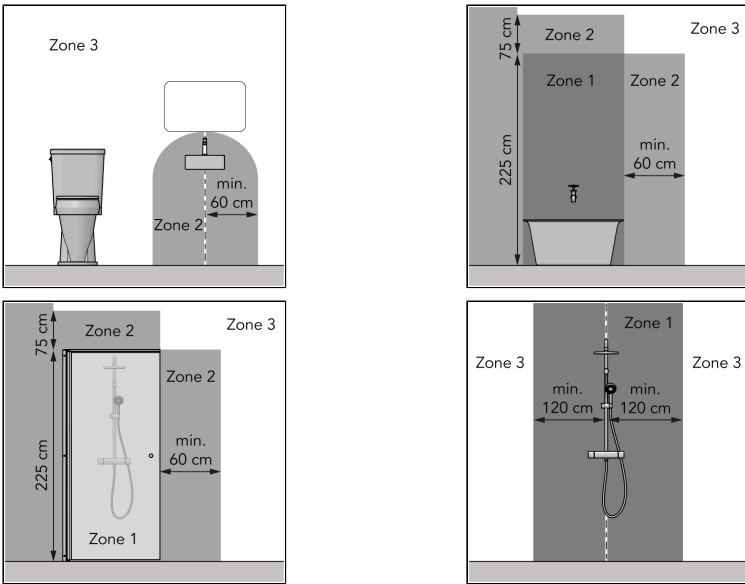

Figure 1.
- in zone 3 of a toilet room or bathroom with a bath, shower with screen or shower without screen, see Figure 1;